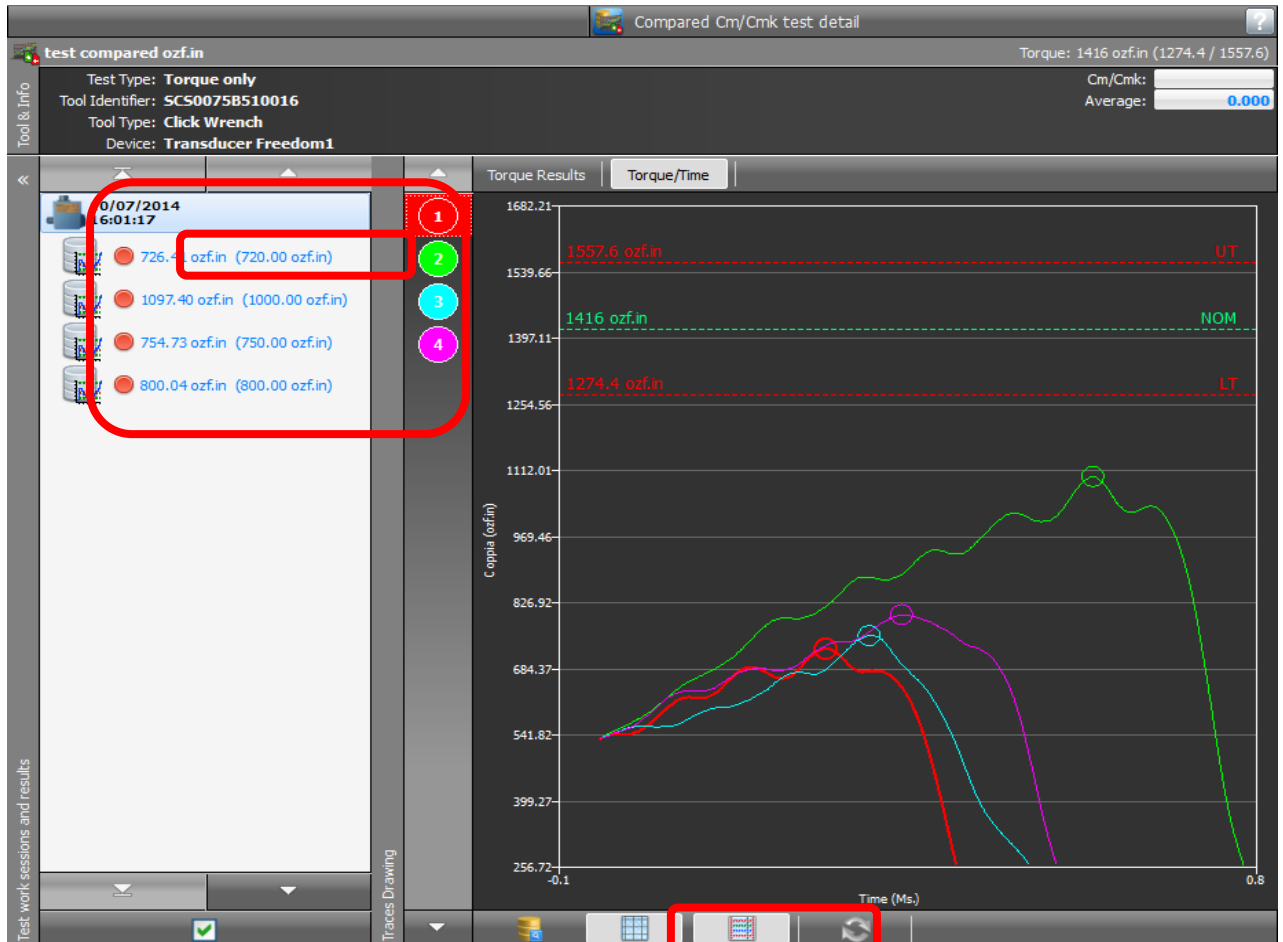

Figure 14
- it's also possible to save in the Data.Pro database the compared free Cm/Cmk test, in this case also the results received from the external tool are saved and will be possible to consult them by the Free Cm/Cmk tests repository feature (See **Figure 14**).